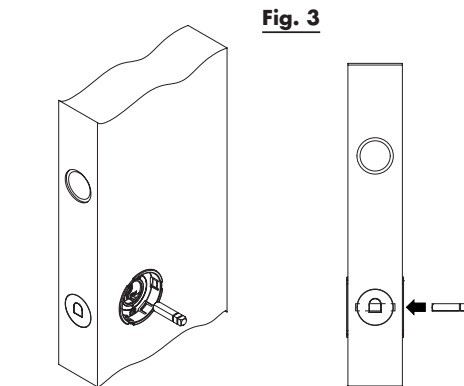

Fig. 3
4. Place the 6mm spindle in his respective housing through the lock (Fig. 3), choosing between one of the two provided, according to the thickness of the door and possibly adapt the length: